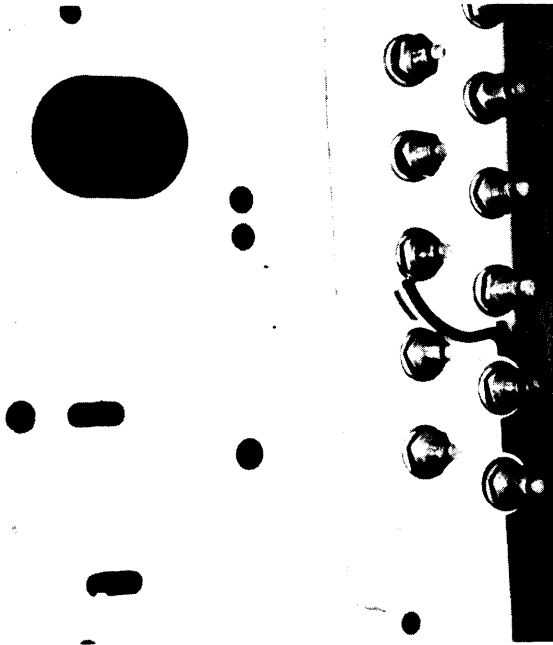

Figure 4
3.03 Remove approximately one-half inch of insulation from the ends of the conductors. Make sure the copper conductors are clean and not nicked. Make connection to terminal block as shown in Figure 4.